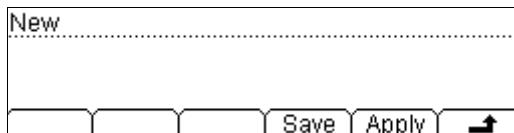

Figure 2-48 Finishing interface
- Press Apply as shown in figure 2-48 and load settings into current Sensor and use it directly.